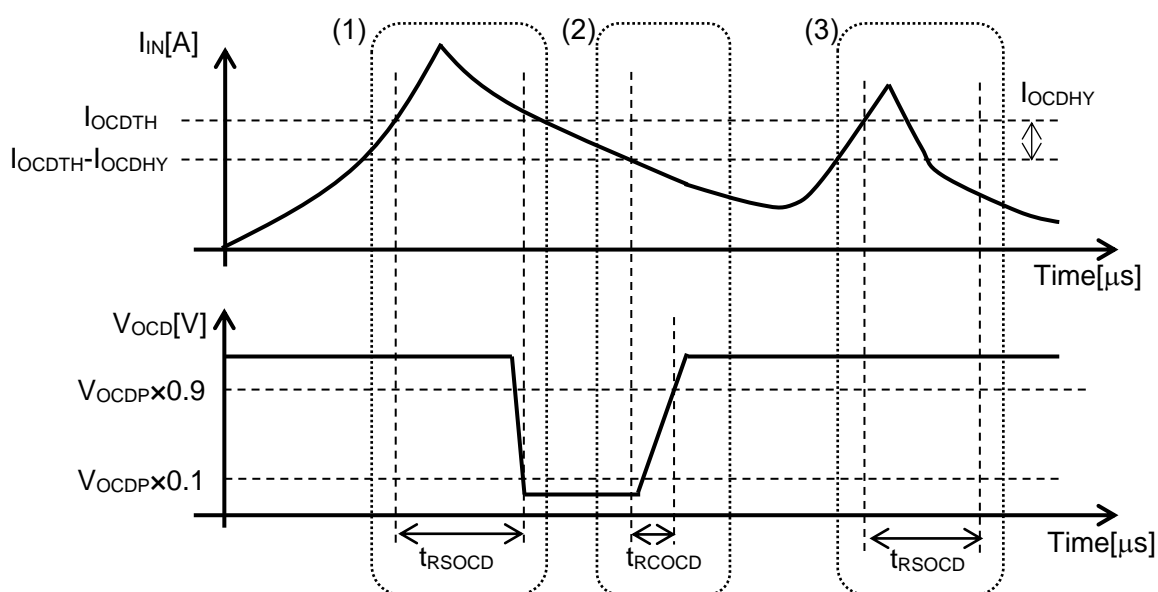

Figure 6. Overcurrent Detection Function of CZ-3A02
10.4. Overcurrent Detection Function is operated as below. (See figure 6.)